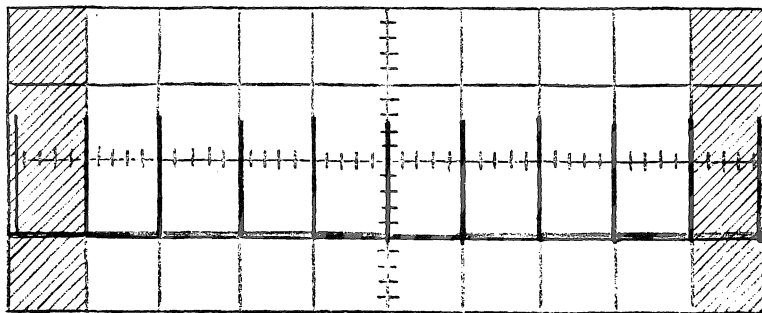

Fig. 11-1 Using middle 8 cm of sweep for most accurate timing. Linearity error is confined to outermost 2 cm (shaded area).
References to the "second" marker, the "tenth" marker, the "1 cm" and "9 cm" graticule lines in the procedure are intended as reminders to use this method. See Fig. 11-1
11.1.1.1 Calibration Check: Adjust Delaying Sweep Triggering Level for stable display of time-marks. Align second marker from left with 1 cm graticule line (See Fig. 11-1), and check for exact alignment of markers and graticule lines across middle 8 cm of graticule. Log any displacement of 10th marker from 9 cm graticule line in Cal Record. (1 mm = 1%; log + if to the right, - if to the left of the graticule line).
- 11.3.1 Measurements: Turn Horizontal Display switch to Main Sweep Normal, Triggering Mode to AC Fast or AC Slow, and Trigger Slope to +Int. With vertical Volts/Cm set for convenient display amplitude, apply time markers from Type 180 (A) Time-Mark generator according to the table below, and adjust Stability and Triggering Level controls for a stable triggered display. Check for timing error over middle 8 cm of graticule. (See Fig. 11-1) and log error at 9 cm line in Cal Record (1mm = 1%). If error exceeds 2% at any calibrated sweep setting, follow troubleshooting procedure 11.3.2.